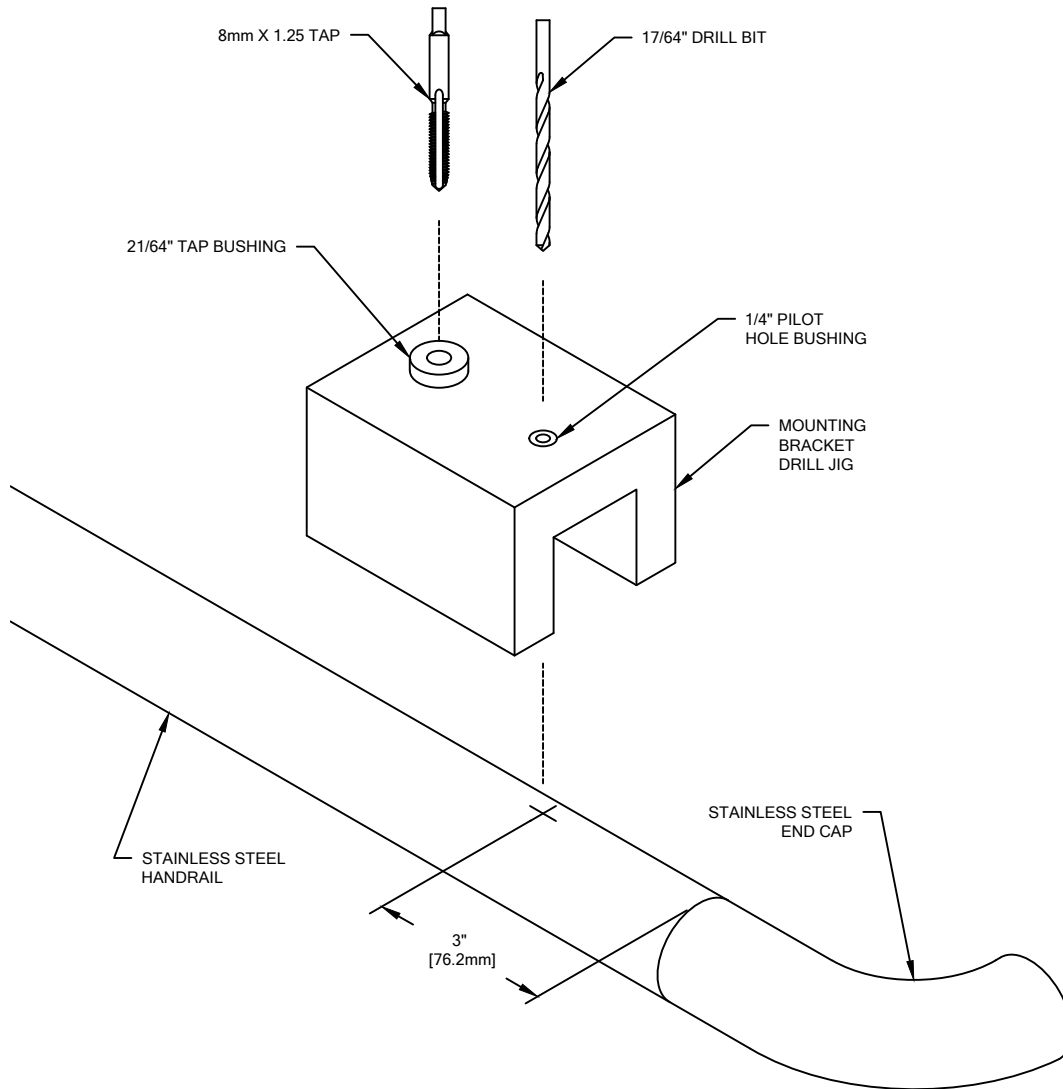

FIGURE 2.
- DRILL PILOT HOLES IN BOTTOM SURFACE OF STAINLESS STEEL HANDRAIL AS PER MOUNTING BRACKET DRILL JIG INSTRUCTIONS (SEE FIGURE 2). MOUNTING BRACKETS ARE TO BE LOCATED AT A MAXIMUM OF 32" [812.8mm] O.C. AND NO LESS THAN 3" [76.2mm] FROM END OF STAINLESS STEEL HANDRAIL. CAUTION: BE SURE THE HANDRAIL DOES NOT ROTATE WHEN DRILLING PILOT HOLE.
MOUNTING BRACKET DRILL JIG INSTRUCTIONS. REFER TO FIGURE 2.